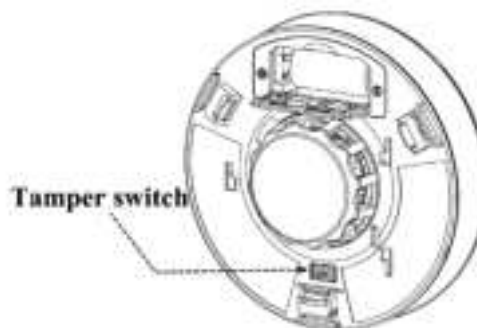

Figure 11: Tamper switch location
TAMPER ALARM: When the bracket is uninstalled, the tamper switch is opened, the tamper alarm will sound, the tamper switch location as shown in Figure: 11, The tamper alarm pattern is two (2) long alarm sirens with two (2) corresponding flashes of the yellow LED. **WARNING:** The tamper alarm is silenced for 5 minutes after energizing.